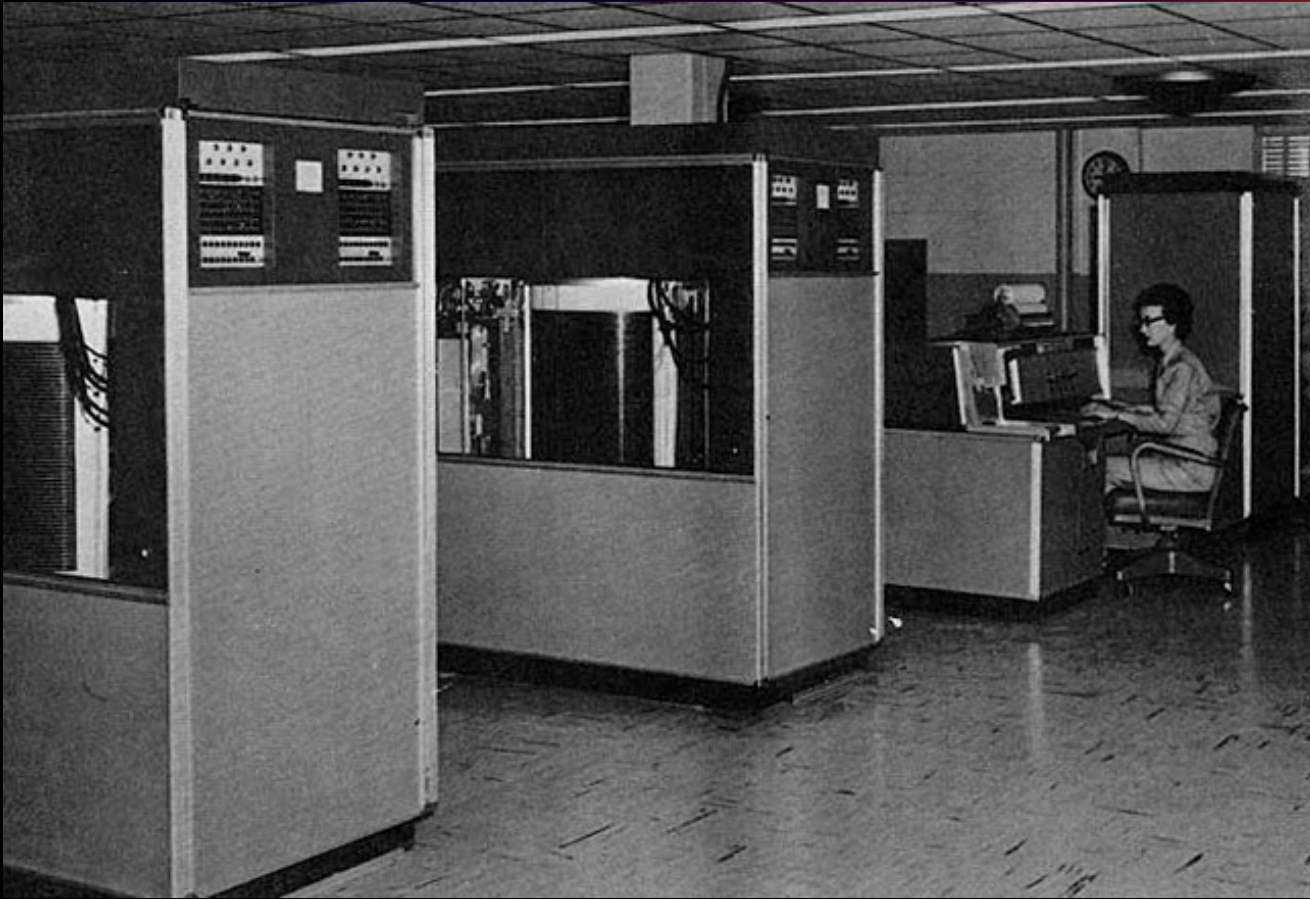

Figure 3: In 1956, the IBM 305 is the first computer to use a disk drive. It is also the last vacuum tube computer manufactured by IBM.
- 1956 IBM 305 RAMAC (Random Access Method of Accounting and Control) is the first computer to use a disk drive (Figure 3).